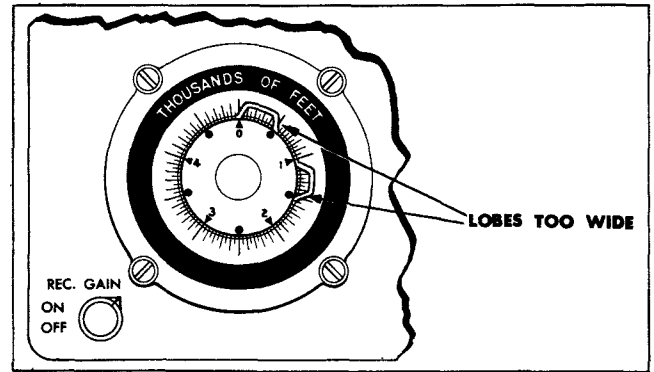

Figure 3-1. Receiver Gain Too High
- d. Receiver gain too high. (See figure 3-1.)